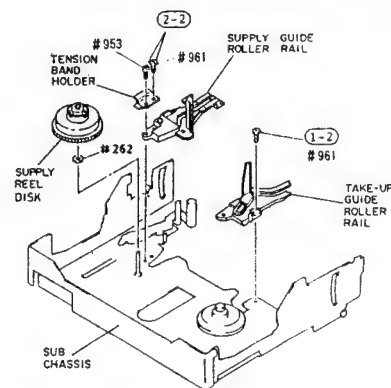

Fig. 2-59
- 2) Remove one (1) screw holding the take-up guide roller rail. (See Fig. 2-59)
- 2) Remove two (2) screws holding the supply guide roller rail and tension band holder. (See Fig. 2-59)